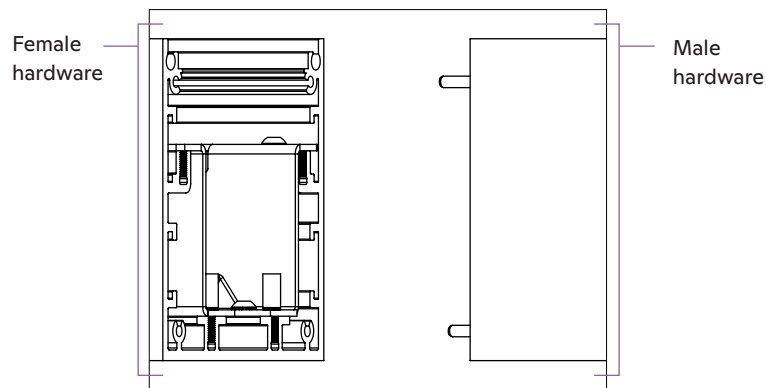

fig. 13
1. Connect the previous fixture's male joint to this fixture's female joint. Slide the male joint's four pins into place in the female joint (see fig. 13).